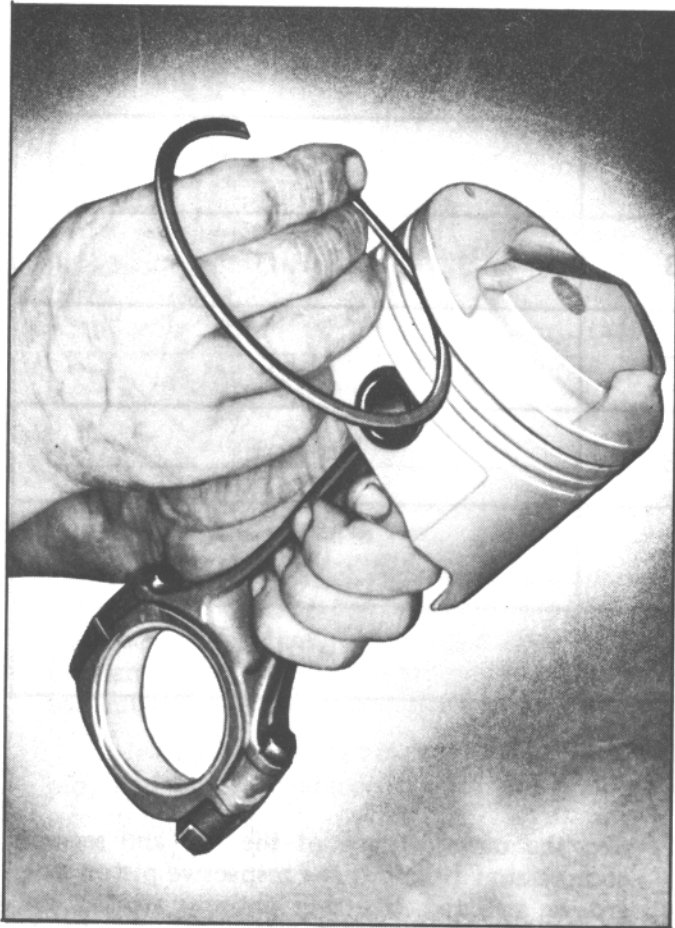

Fig. 79. Checking Ring In Groove
7. Slip the outer surface of the top and second compression ring into the respective piston ring groove and roll the ring entirely around the groove (Fig. 79) to make sure that the ring is free. If binding occurs at any point, the cause